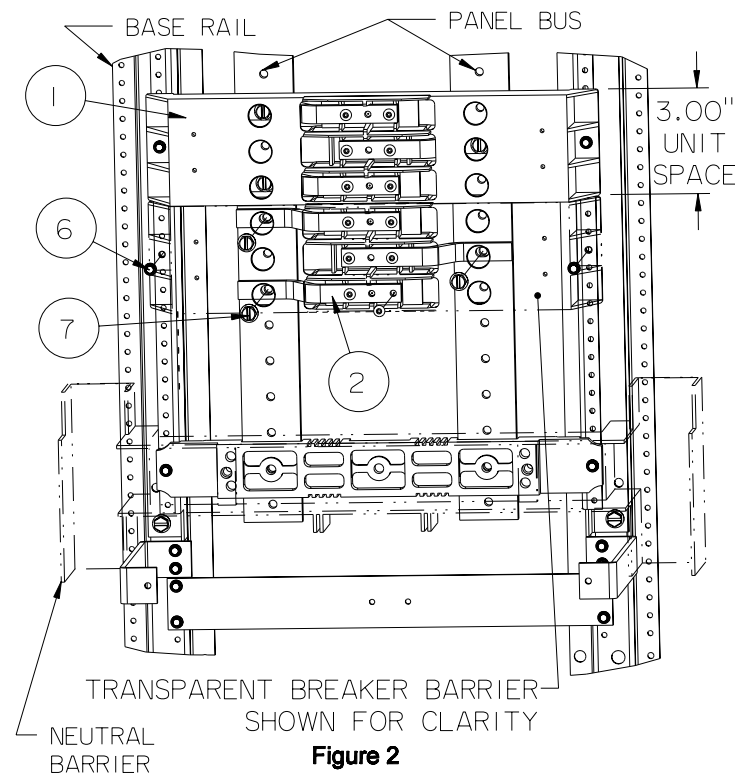

Figure 2
6. Refer to fig. 2. - Position the breaker mounting barrier (item 1) so that it fills the 3" unit space for the kit and fasten it to the base rails using two 8-32 screws (item 6). Install the phase connectors (item 2) within the mounting barrier, alternating between the left and right panel bus. The left-right-left connector pattern shown in fig. 2 may be reversed if necessary to continue a connector pattern already in place in the panel. Locate the outer connectors in the mounting base by aligning the center hole in the connectors with the locating pins in the mounting base. Use the upper & lower connectors as a reference guide for placement of the center connector. Fasten the connectors to the panel bus with three 1/4-20 X 1" screws (item 7).